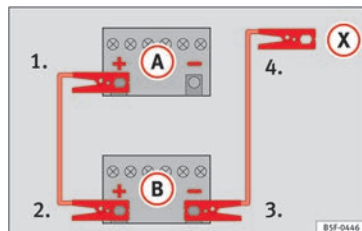

Fig. 70 Diagram of connections for vehicles without Start-Stop system.
- Connect one end of the *red* jump lead to the positive (+) terminal of the vehicle with the flat battery (A) »» Fig. 70.
- Connect the other end of the *red* jump lead to the positive terminal (+) in the vehicle providing assistance (B).
- For vehicles without Start-Stop system:* connect one end of the *black* jump lead to the negative terminal (-) of the vehicle providing the current (B) »» Fig. 70.